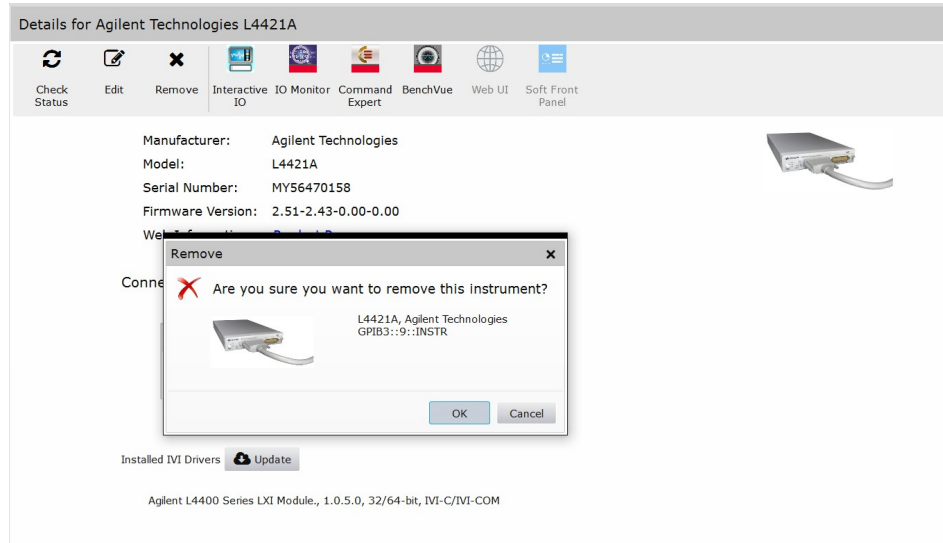

Figure 2-11 Removing instrument in Keysight Connection Expert.
- 4 Change the address in the Keysight Connection Expert by removing the instrument (Figure 2-11) and add the instrument at the new address.